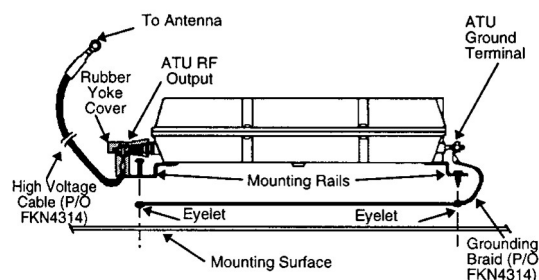

Figure 2-3. 88-021 High Voltage Cable Attachment
**Step 1.** Attach the high voltage cable conductor to the ATU RF output (see Figure 2-3). While holding the high voltage cable, push the rubber yoke cover until it slips on the yoke.
**Step 2.** Attach the grounding braid of the high voltage cable kit to the ATU ground terminal (see Figure 2-3).
**Step 3.** Route the grounding braid between the ATU mounting rails and the mounting surface. Align the grounding braid eyelets with the holes in the mounting rails and mount the ATU using the tapping screws provided (see Figure 2-3).
**Step 2.** Attach the ground braid of the high voltage cable kit to the ATU ground terminal (see Figure 2-3).